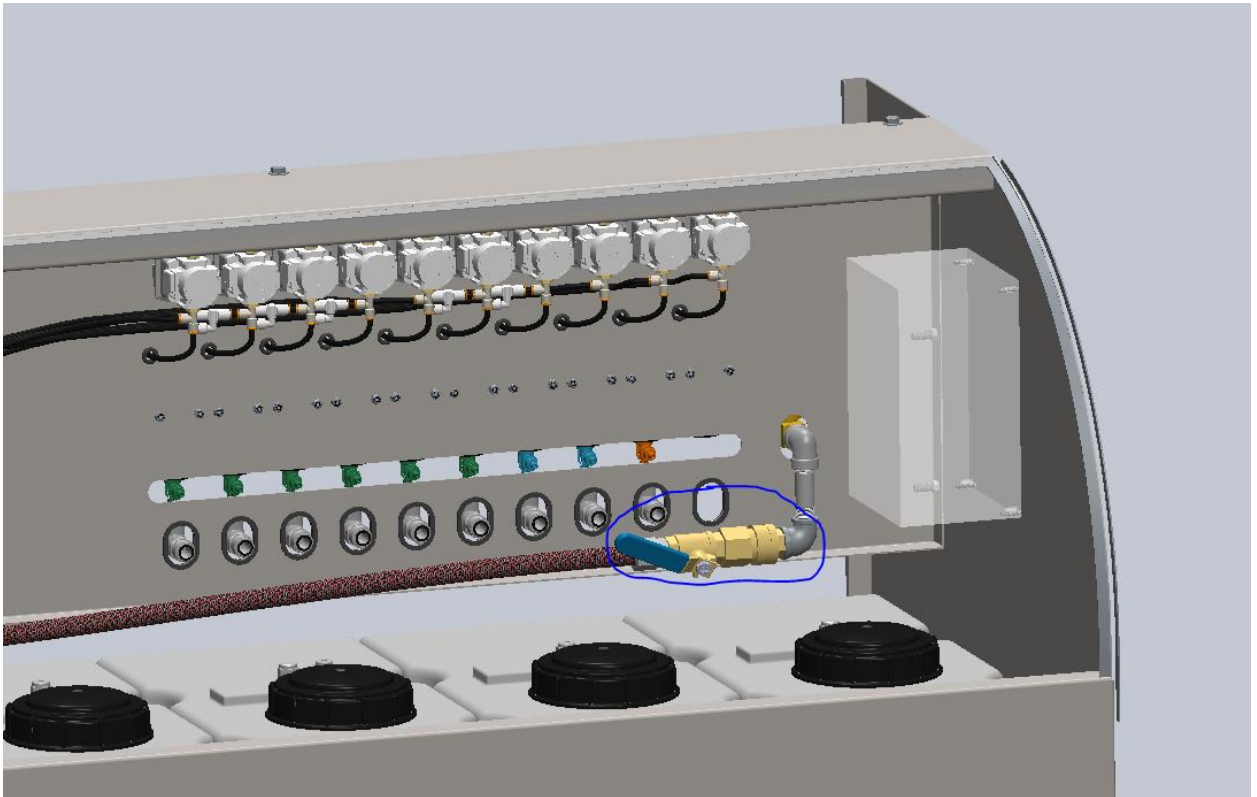

Figure 1. Valve being closed
- 1.) Begin by donning PPE and shutting off the valve as shown in Figure 1